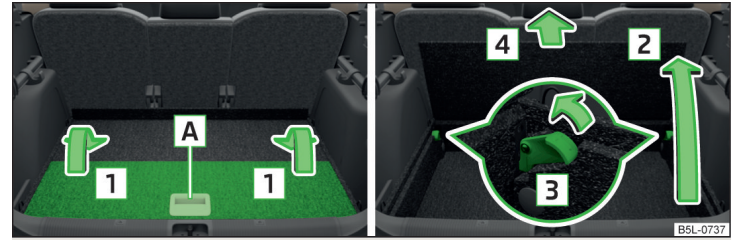

Fig. 118 Fold up / removal variable loading floor
- Fold the variable loading floor together using the handle **A** and fold in the direction of **1** » Fig. 118.